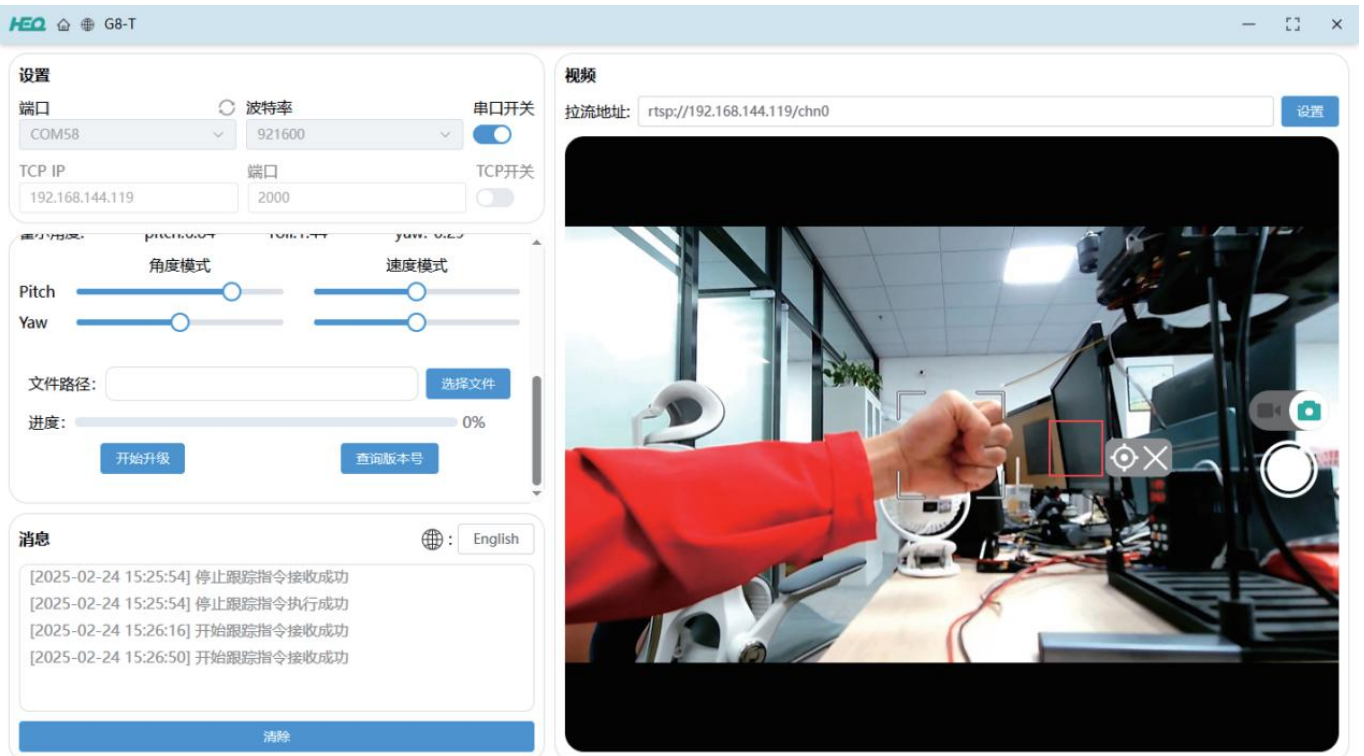

Figure2
1.7 Tracking function: select the target in the video frame and click  to lock tracking (**other controls cannot be operated in tracking state**), To cancel tracking, select the box again and click the button , as shown in Figure 2;